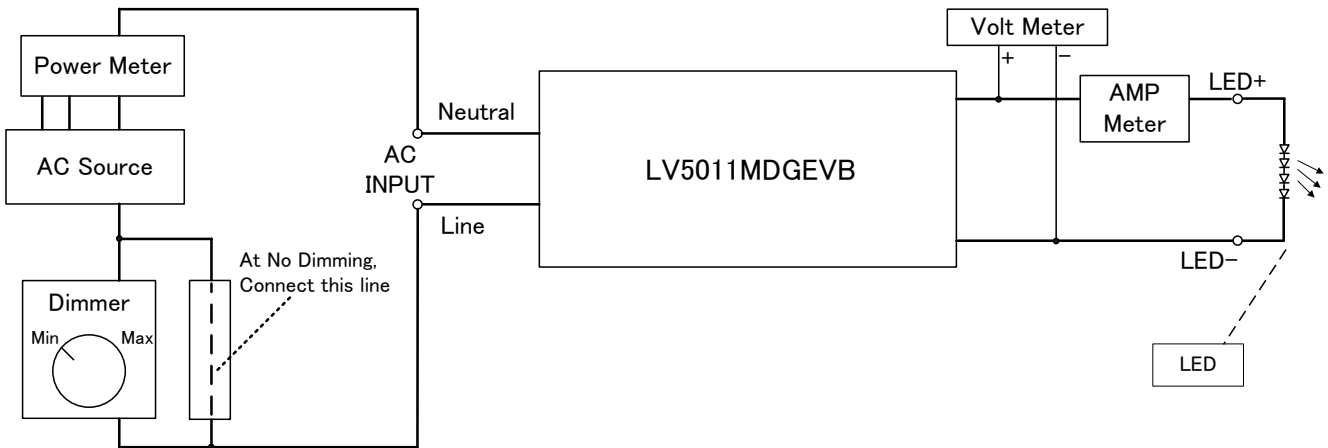

Figure1. LV5011MDGEVB Recommended Test Set Up
1. Connect LV5011MDGEVB like upper Figure1. An external LED load must be used to start up the EVB.